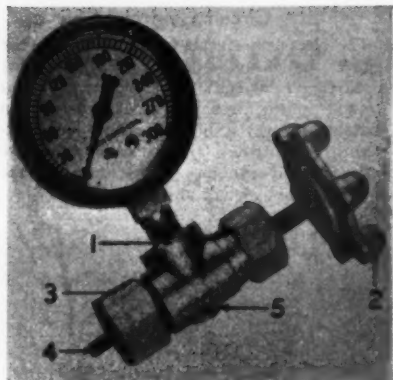

Fig. 6. The charging valve and gauge assembly.
Attach the oil pressure gauge (0-150 lbs.), to a gauge adapter shown in Fig. 6, and attach the gauge adapter to the externally threaded fitting, 4, with the stem, 4, Fig. 6, engaging the small plug inside the fitting. Make certain the opening, 5, on the gauge adapter is plugged. Then turn the hand wheel counterclockwise, which loosens the small plug inside the threaded fitting and permits the gauge to indicate the pressure.
4. Remove the gauge adapter. To do this, turn the hand wheel, 2, Fig. 6, to the right. This seats the inner plug. Then take off the gauge adapter and replace the pipe thread plug, using a thread paste such as litharge and glycerine.